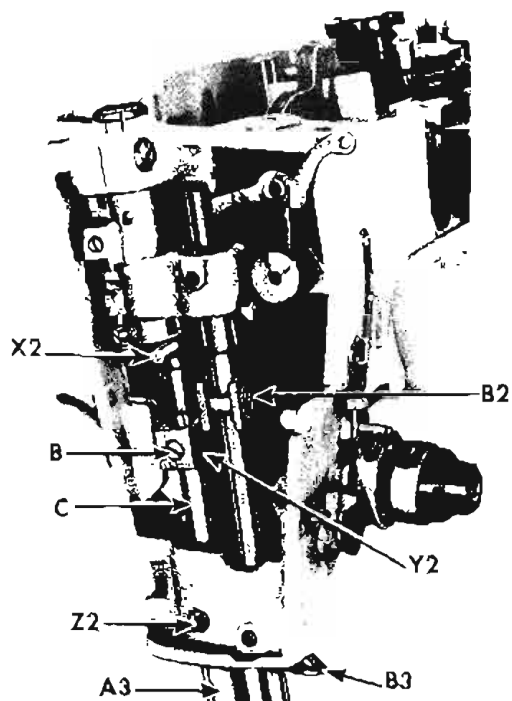

Fig. 46. Needle Bar and Presser Bar Assemblies
3. Loosen screw B2, Fig. 46 and lift needle bar up through bushings and out of machine.
1. Insert needle bar through bushings, as shown in Fig. 46.
5. Remove extension pin X2, Fig. 46, with its spring.